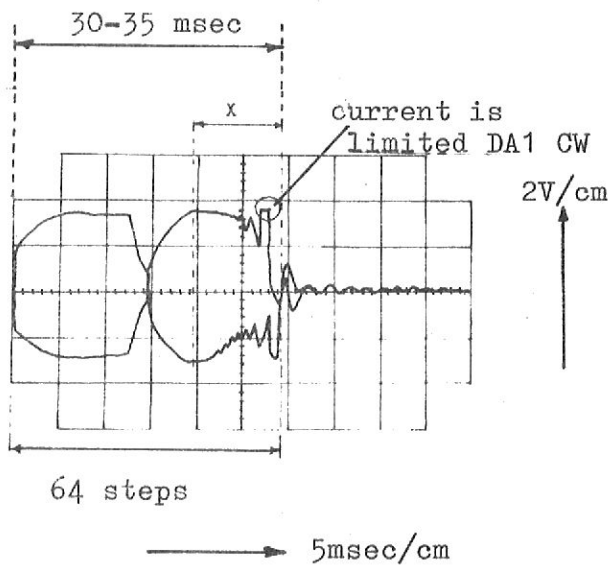

Fig. 7-6
- 9) Turn potmeter DA1 CCW (speed is increased) till the current is correct, see fig.7-5with due regard to mentioned on point 11. When the speed becomes higher turn VX3 CW till it is correct, see fig.7-6 and 7-7
The current should not be limited, fig. 7-6/7-7.